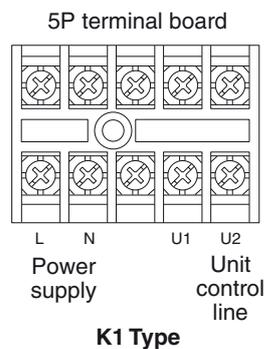

Fig. 4-2
- (1) Refer to Section 4-2. "Recommended Wire Length and Wire Diameter for Power Supply System" for the explanation of "A", "B", "C", "D" and "E" in the above diagram.
- (2) The basic connection diagram of the indoor unit shows the terminal boards, so the terminal boards in your equipment may differ from the diagram. (Fig. 4-2)
- (3) Refrigerant Circuit (R.C.) address should be set before turning the power on.
- (4) Regarding R.C. address setting, refer to the installation instructions supplied with the remote controller (optional). Auto address setting can be executed by remote controller automatically. Refer to the installation instructions supplied with the remote controller (optional).